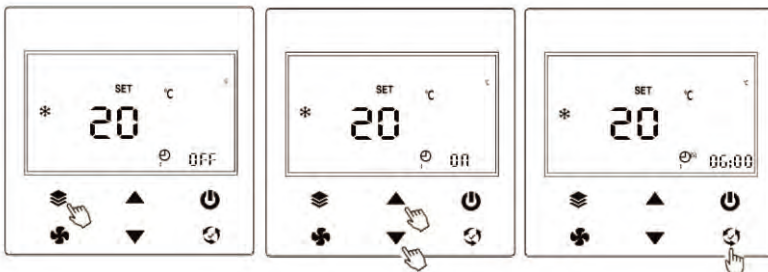

Figure 8. Select to enable or cancel time period timing by short pressing  or
2. After adjusting to the timing function, short press  or  to select timing to enable or disable. If the timing is canceled, the timing function of the time period will not be enabled. Display OFF means disable, display  means enable, as shown in Figure 8: